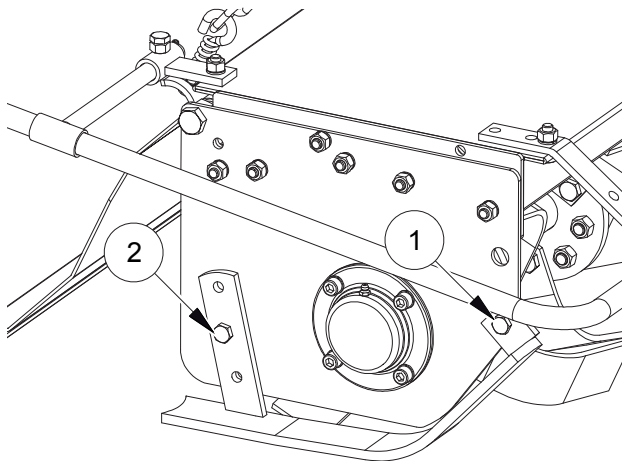

FIG. 16
Loosen nuts (1, Fig. 16), act upon the rear regulator by loosening the nut (2). Withdraw downwards to reduce the working depth; Insert upwards to increase the working depth. Tighten nuts (1 and 2, Fig. 16).